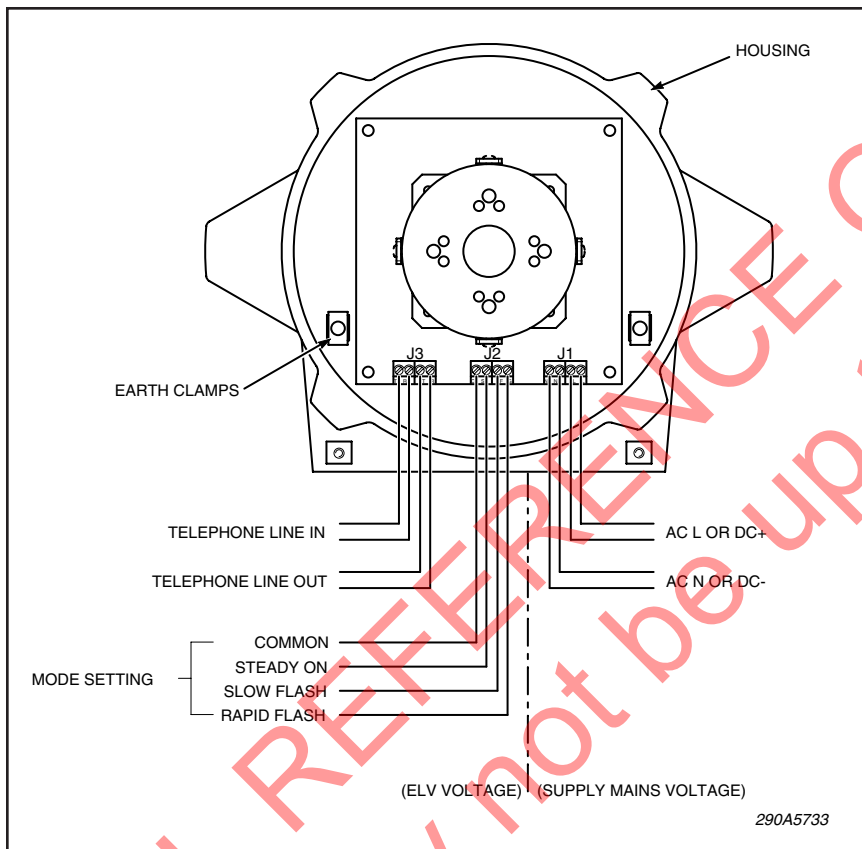

Figure 1.
e. A series of four-pole screw terminal blocks are provided for field wiring. See figure 1 for wiring diagram. These terminals are rated for the following wire ranges: 24 to 12 AWG (0.25 to 4 mm²). Terminal tightening torque is 0.5 Nm. The power feed through terminals of J1 are rated for 300 V, 10 amps maximum. See section D for specific mode of operation wiring.
a. Connect power wiring to the J1 terminal block as indicated in Figure 1(Ex d) or 2 (Ex de). The supply power should not be switched as the remote contacts are used to activate the light.
a. Connect power wiring to the J1 terminal block as indicated in Figure 1(Ex d) or 2 (Ex de).
a. Connect power wiring to the J1 terminal block as indicated in Figure 1 (Ex d) or 2 (Ex de).
b. Connect telephone line wiring to the J3 terminal block as indicated in Figure 1 (Ex d) or 2 (Ex de).